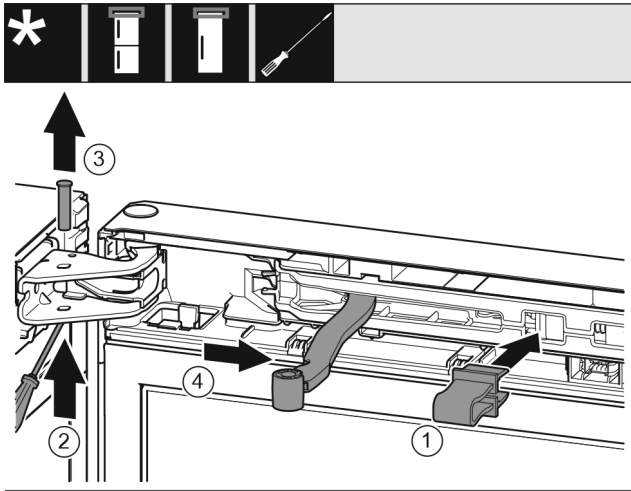

Fig. 6
- ▶ Engage the locking device in the opening. *Fig. 6 (1)*
- ▶ Unscrew the bolt with a screwdriver. *Fig. 6 (2)*
- ▶ Remove the bolt upwards. *Fig. 6 (3)*
- ▶ Turn the hinge in the direction of the door. *Fig. 6 (4)*